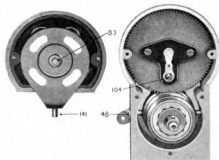

Fig. 2
The major difference in design between the Type U-4 Ed. 4 and the preceding U-4 Magnetos is the adoption of the single rotating distributor brush with stationary segment track instead of the stationary four brush system with single rotating segment. (See Fig. 2). The high tension current is collected from the collector ring by the brush (141) at the lower end of the distributor track and then carried to the center brush (83) which rests against the metal segment of the distributor rotor. The brush in the rotor distributes the current to each of the four distributor terminals through the metal segments in the distributor track. The track is fastened to the bakelite distributor plate by means of countersunk-head machine screws extending through the cable inserts into the segments of the track. Push type cable terminals are used instead of interior piercing screws.